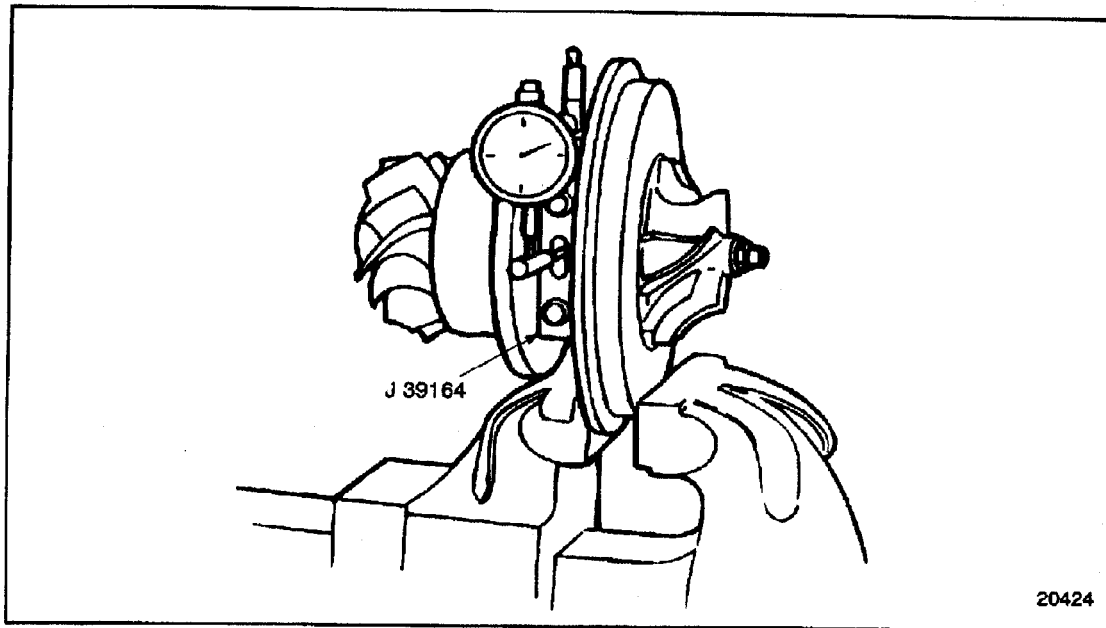

Figure 6-26 **Checking Shaft Radial Movement**
- [a] Install the turbo shaft checker, J 39164, to the oil drain opening of the center section. The special curved end of the tool must contact the wheel shaft through the oil outlet port and an internal opening in the center section casting. See Figure 6-26.
- [b] Install a dial indicator. See Figure 6-26.